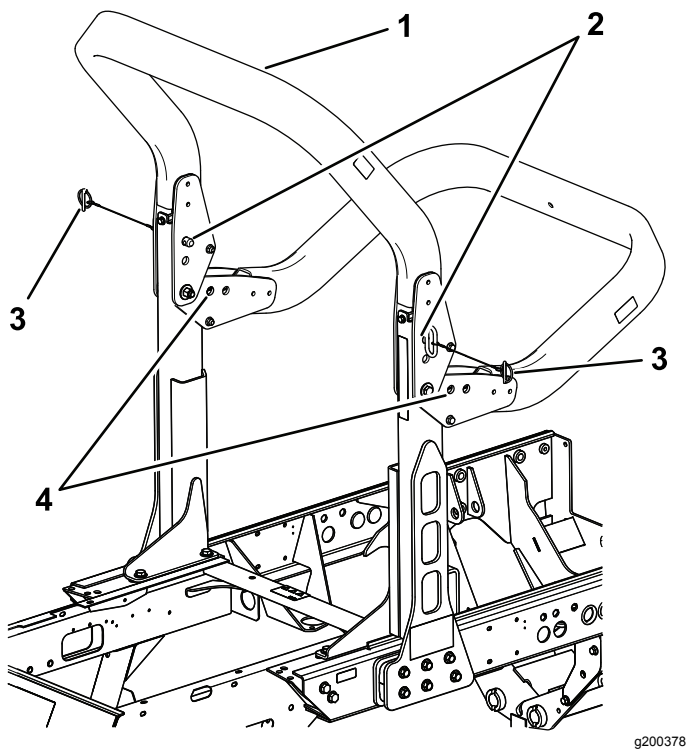

Figure 36
2. Support the weight of the upper frame of the roll bar while removing the snap pins and clevis pins from the pivot brackets (Figure 36).